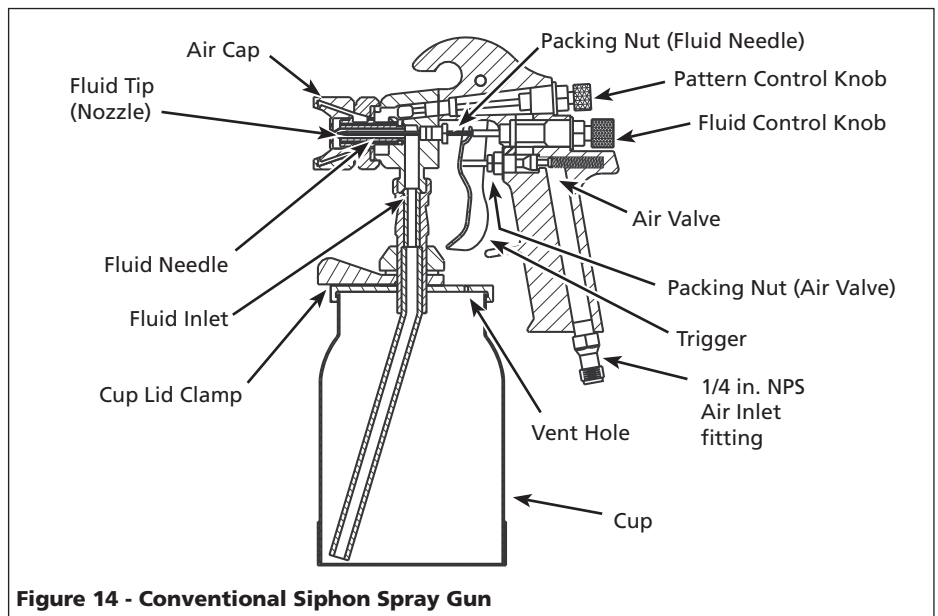

Figure 14 - Conventional Siphon Spray Gun
- Unscrew packing nuts and replace the packing **ONLY** if a leak will not stop when the nut is tightened (See Figure 14). Do not over-tighten a packing nut because this will restrict movement of the needle.